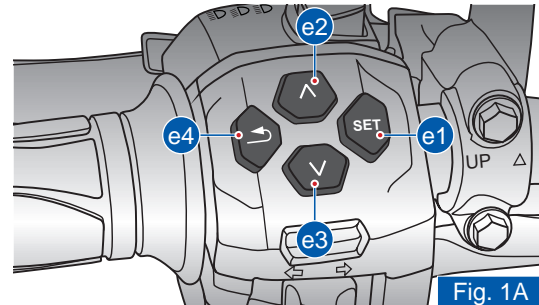

Fig. 1A
- After the self-check of the instrument cluster, press the 'SET' (e1) button to enter the menu function (ref. Fig. 1A).
*But ride mode can be changed on-the-go by pressing 'Up' (b) arrow key (ref. Fig. 1A)*